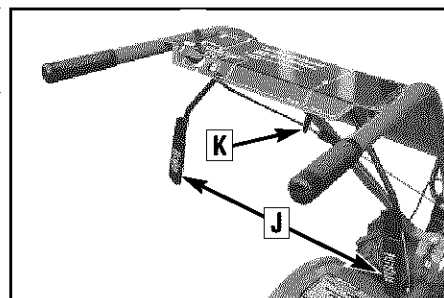
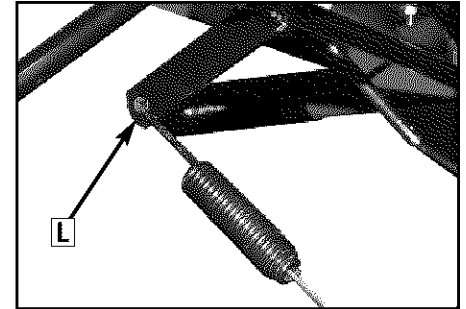

Figure 2-6: Forward Clutch Control levers (J). Forward clutch control linkage (K).
Figure 2-7
1. Remove any fasteners (rubber bands, tape, etc.) that may secure the Forward Clutch Control levers (J, Figure 2-6) to the handlebar.
2. The forward clutch control cable (with attached spring) is hanging loosely near the right-side wheel. Being careful not to kink or stretch the cable, insert the z-connector (L, Figure 2-7 - end of the spring) into the hole at the end of the forward clutch control linkage (K, Figure 2-6).